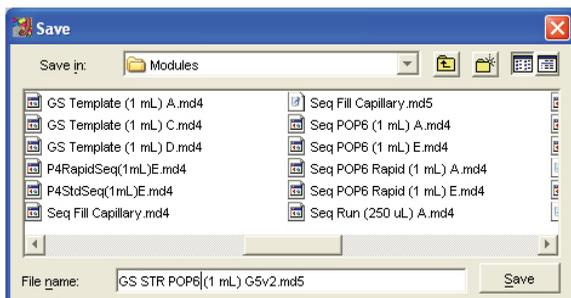

Figure 14. The Save screen.
- Save the new module in the Modules folder. Change the file name to “GS STR POP6 (1mL) G5v2.md5”, and select “Save” (Figure 14).